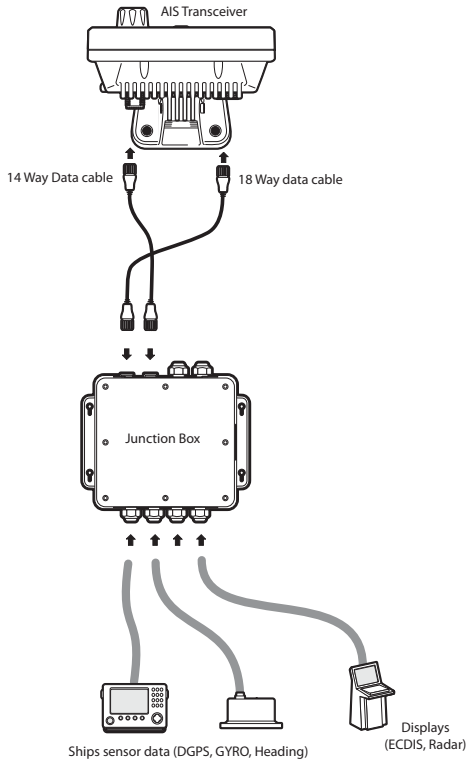

Figure 32 Connecting external equipment
- Figure 32. shows an example of how external equipment could be connected through the junction box accessory.